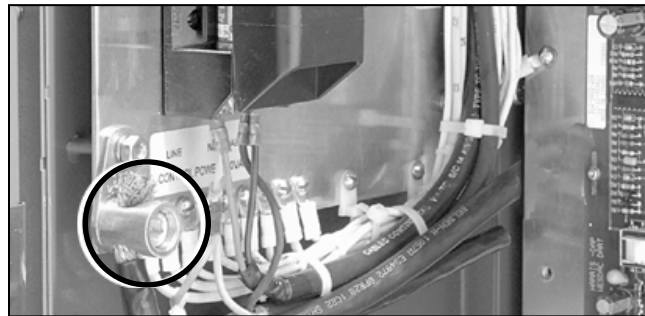

Figure 95. The copper lug and the fuse block.
- (g) Connect the heavy shielded cable to the copper lug on the low-voltage enclosure grounding plate. Figure 95.
To connect external control power, connect the line and neutral to the fuse block. See label under the fuse block. See Figure 95.